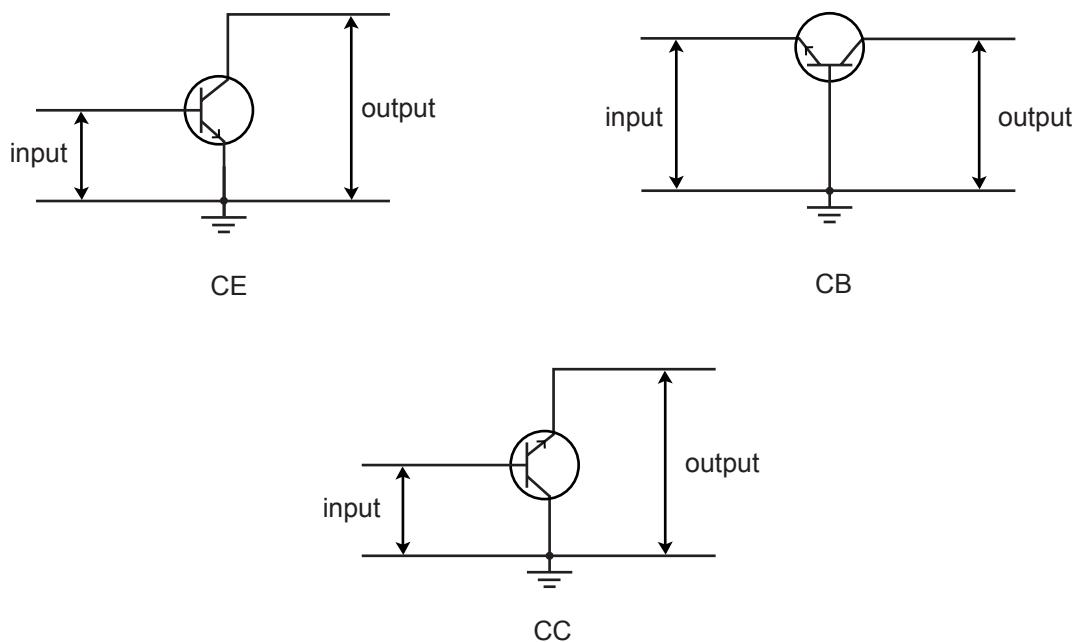

Figure 9.28 CE, CB and CC BJT configurations
The BJT amplifier discussed in Section 9.4 is called the **common emitter (CE)** amplifier as the input is fed into the base and the output is taken from the collector. There are two other configurations: **common base (CB)** and **common collector (CC)** (also known as **emitter follower**). Figure 9.28 compares the three configurations while Table 9.2 summarises the terminals for input and output signals in each configuration.